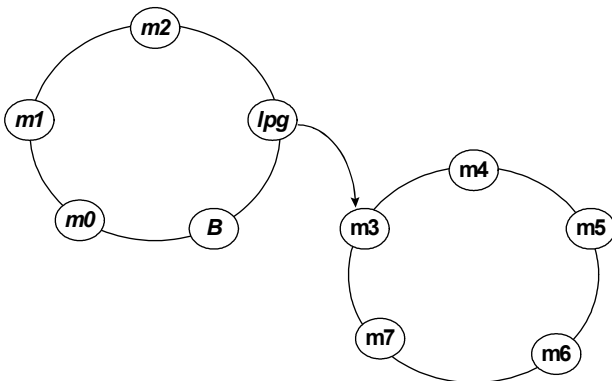

Figure 14-1. Secondary Bus Arbiter Example
The secondary Arbiter supports a programmable two-level rotating algorithm that enables the eight request/grant pairs to control up to eight external bus masters. In addition, there is a request/grant pair internal to the PCI 6520, which allows the device to request and be granted access to the secondary bus. Figure 14-1 is an example of the Internal Arbiter wherein four masters, including the PCI 6520, are in the high-priority group, and five masters are in the low-priority group. Using this example, if all requests are always asserted, the highest priority rotates among the masters in the following way (the PCI 6520 is denoted as *B*; high-priority members are provided in *italic type*, and low-priority members in **boldface type**):
**Note:** In Figure 14-1, “lpg” denotes “low-priority group.”
Using the example provided in Figure 14-1, but with the groups at fixed-priority, suppose that: